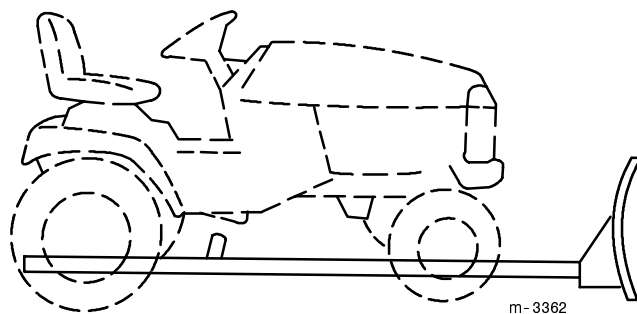

Figure 7
2. Park the tractor over the blade assembly, with the frame between the tractor wheels (Fig. 7).